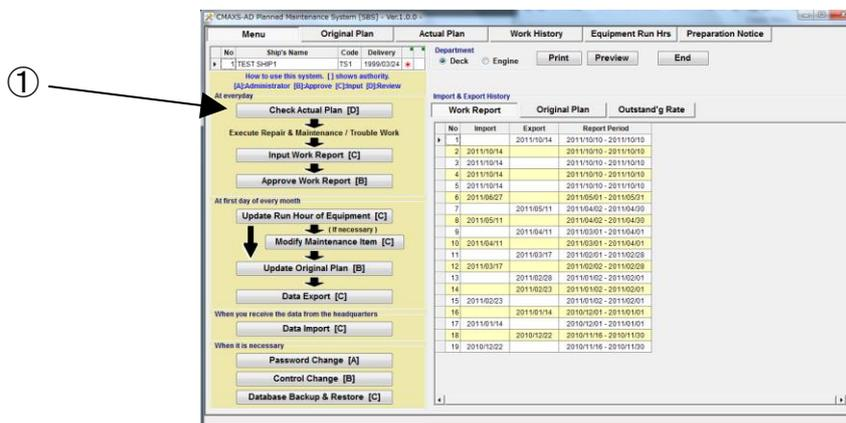

Fig.5-1 Menu Screen
- (1) On the "Menu screen"(Fig.5-1), select [Check Actual Plan].
- (9) As for "Code Search" button, refer "Section 16".
- (10) As for "Filter" button, refer "Section 16".
- (11) If you select [Preview] button, print preview can be displayed.
- (12) If you select [Print] button, print setting can be set.
- (13) If you select [Menu] button, screen is returned to "PMS Main Screen"(Fig.5-1).